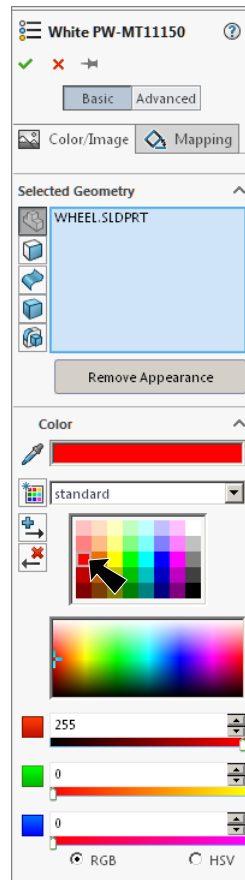

Fig. 16
Step 2. In the Appearances Property Manager, under Color, Fig. 16